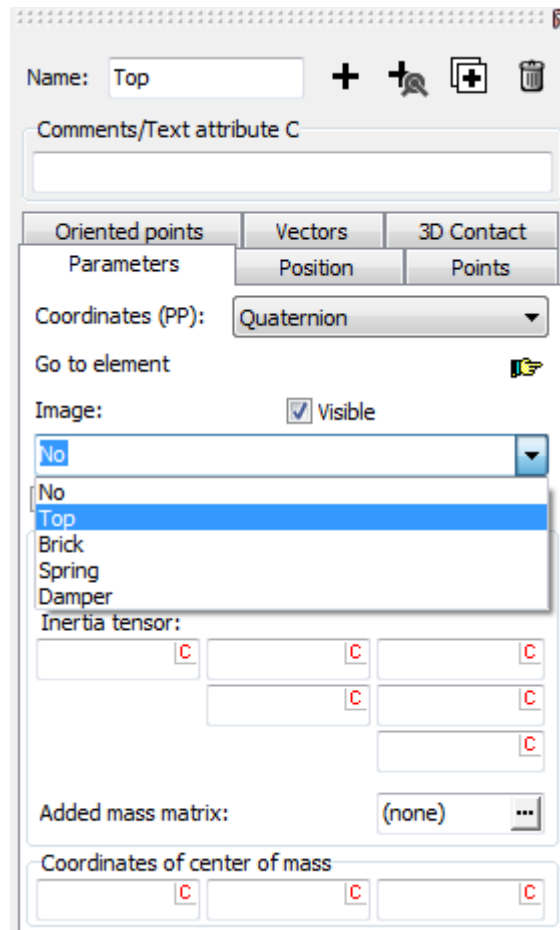

Figure 2.6. Creating the **Top** rigid body
3. In the **Image** list select **Top**, see in Figure 2.6.